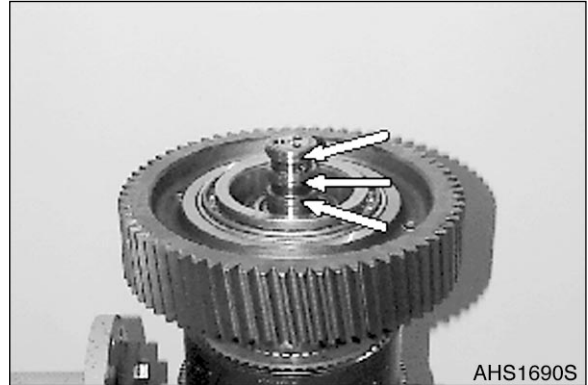

Figure 209
13. Squeeze in and engage rectangular rings (3x, Figure 209).